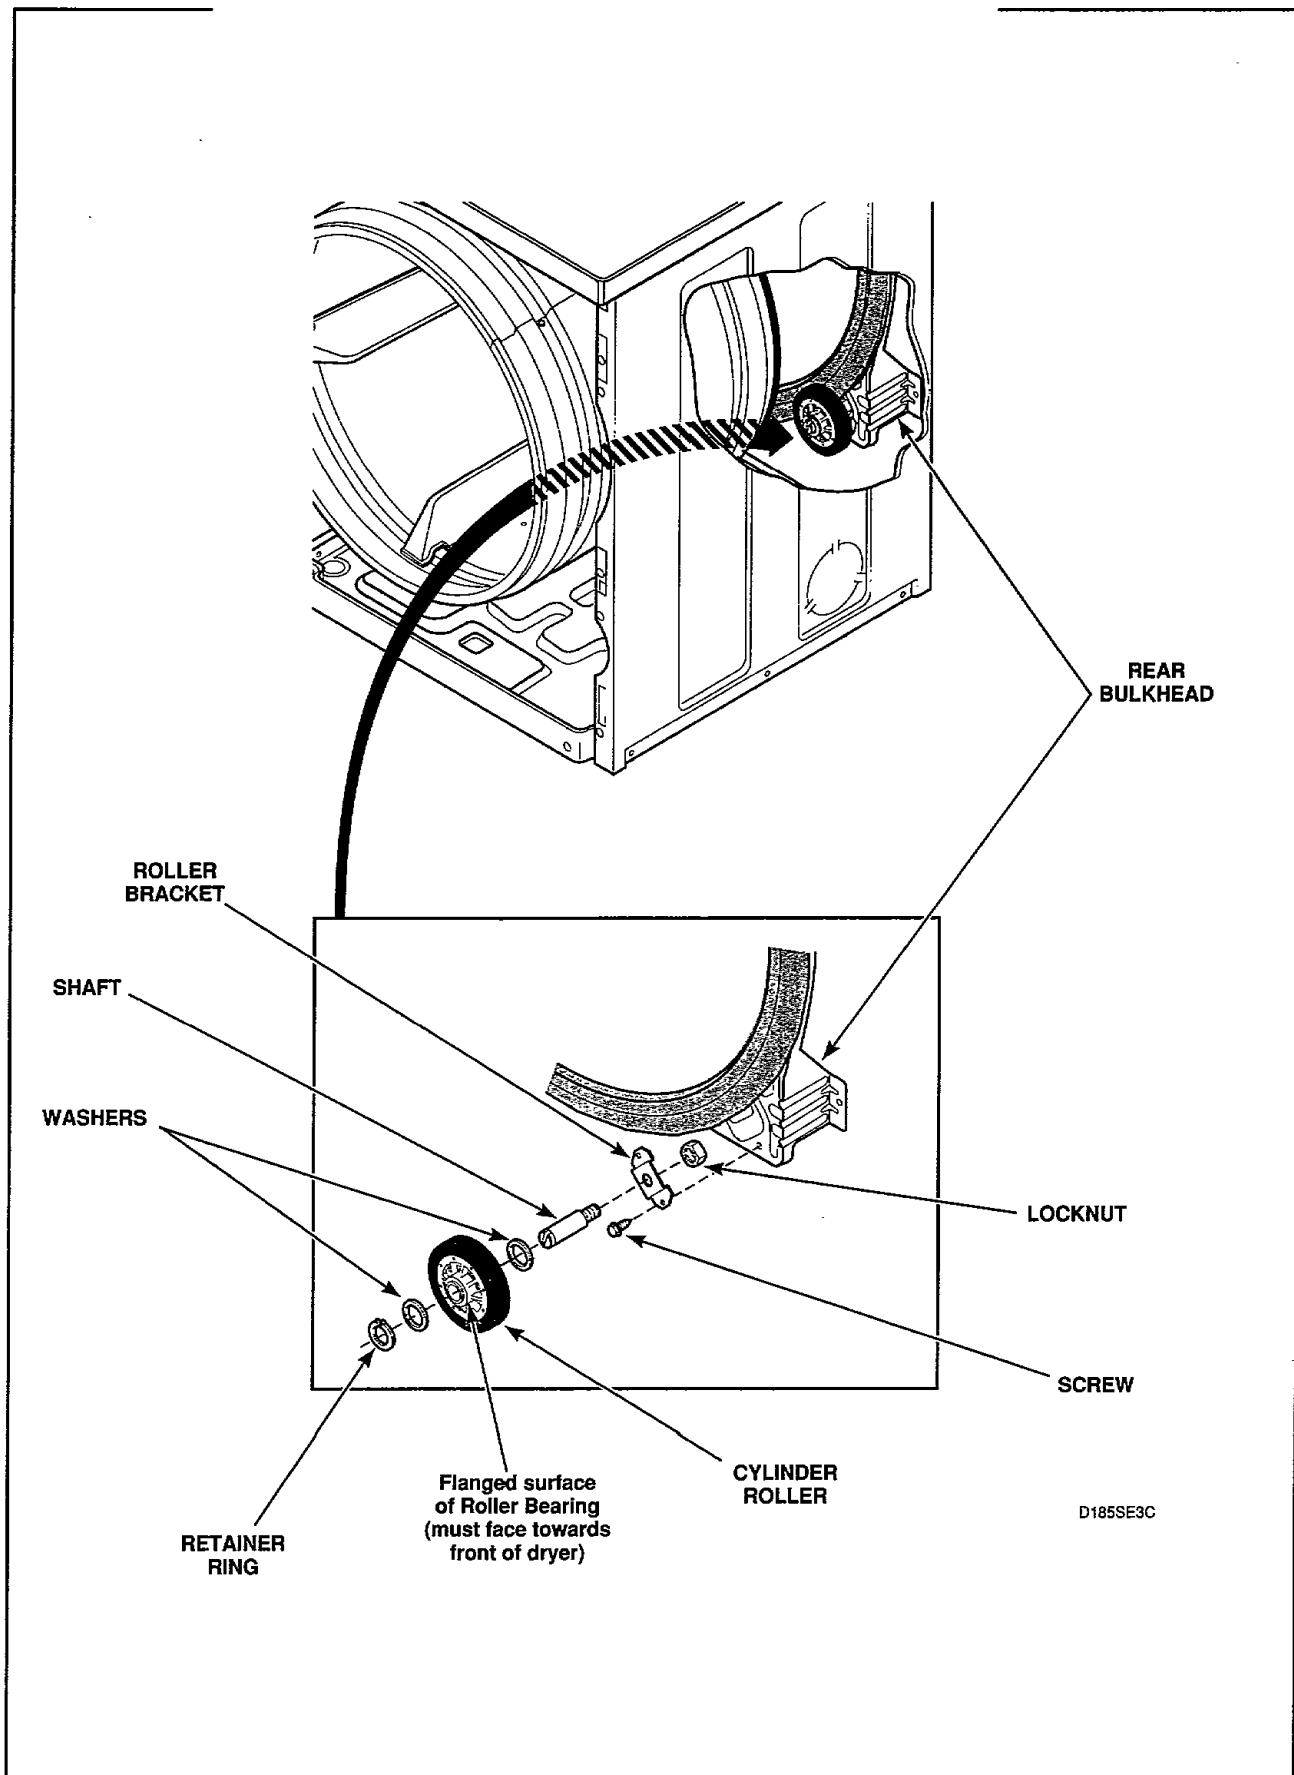

Figure 44
- g. Pull cylinder forward allowing rear of cylinder to drop down exposing rollers, *Figure 44*.
- h. Refer to *Figure 44* for removal of roller from bulkhead.